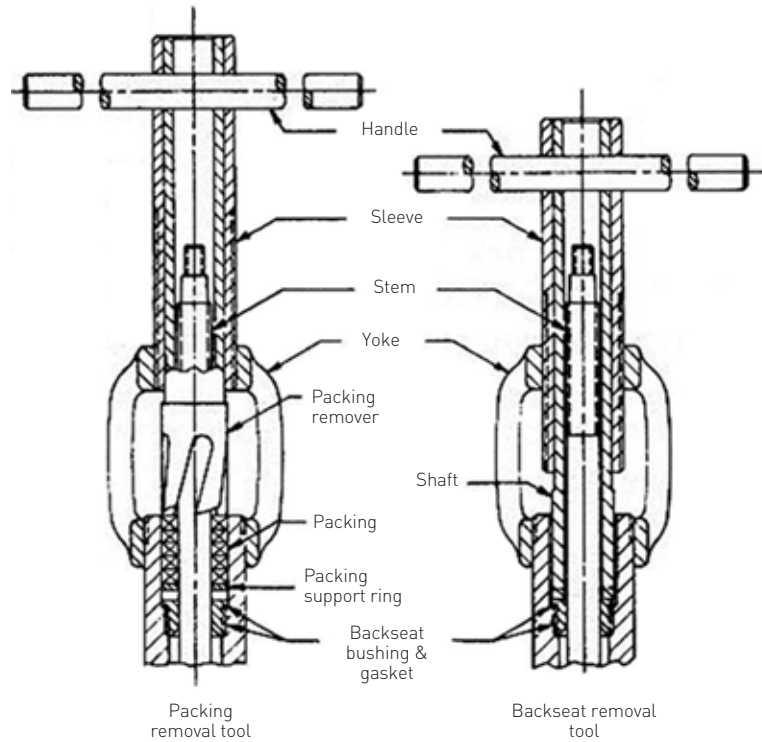

FIGURE 5
4. Packing remover insertion (Figure 5):
5. Backseat tool insertion (Figure 5):